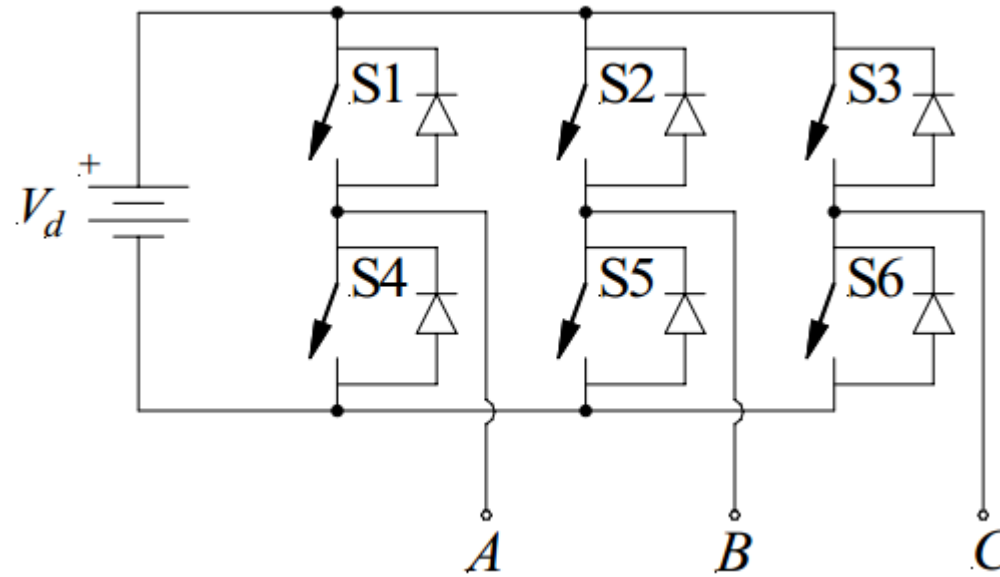

Fig. 7.8-Three-phase, full wave inverter.
- For three-phase loads it makes more sense to use a three-phase inverter shown in Fig. 7.8, rather than using three one-phase inverters.